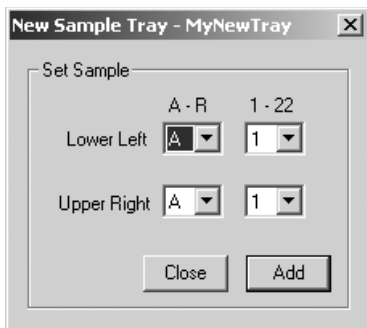

Fig 3-5. The New Sample Tray window.
- 7 Click **New Sample**. The New Sample Tray window appears (fig 3-5)
- **Add a new set of coordinates**—Click **New Sample**. The New Sample Tray window appears (fig 3-5). Select the coordinates in the New Sample Tray window and click **Close**.